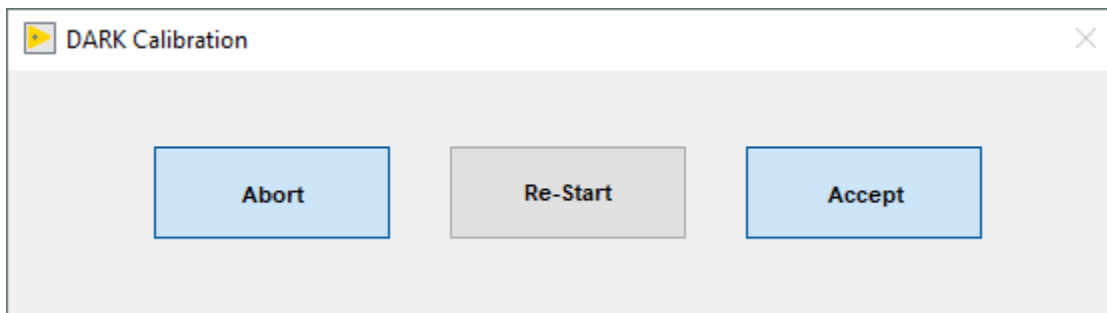

Figure 10. Dark Calibration Completed Prompt
6. When the dark calibration is complete, the user is prompted to **Abort, Re-Start, or Accept** the dark calibration (Figure 10).